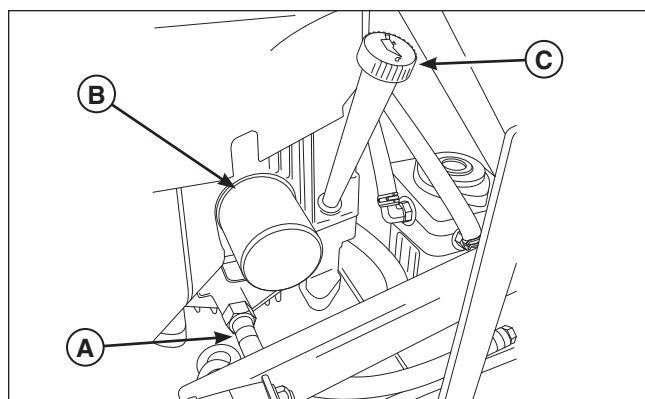

Figure 13. Engine Oil Drain
2. Route the oil drain hose (**A, Figure 13**) over the side of the engine deck and underneath the fuel tank.